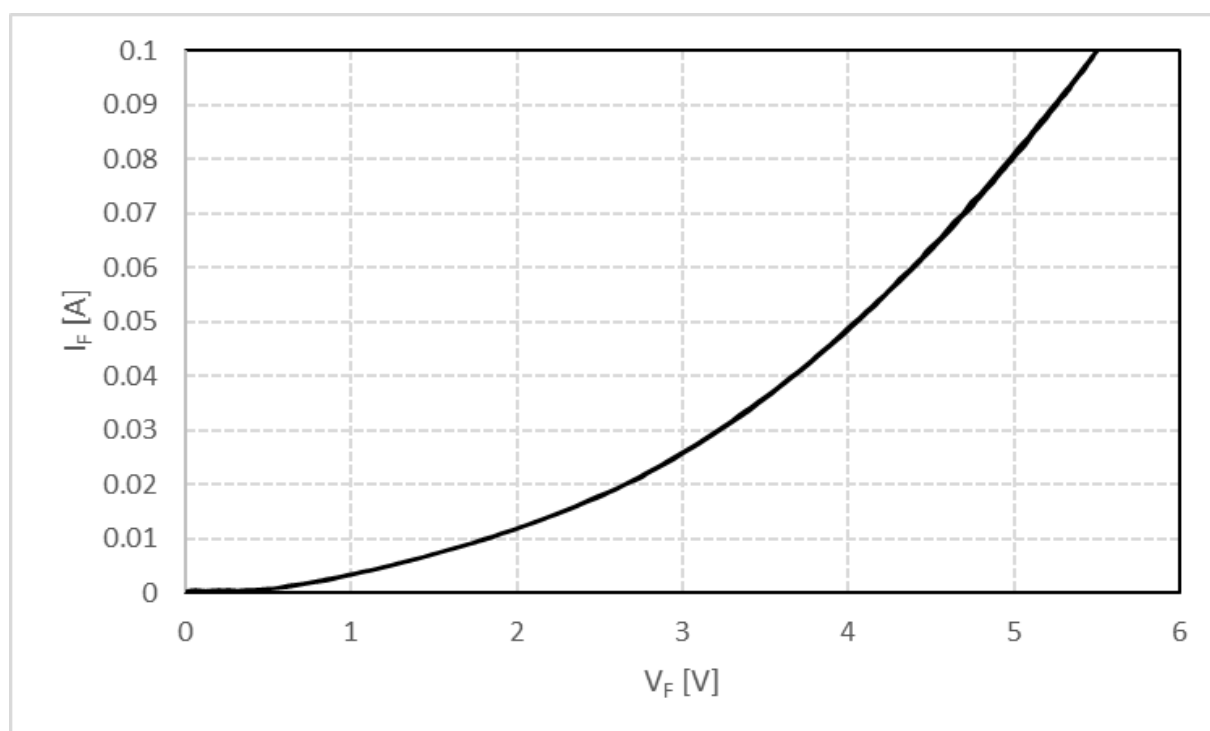

Fig. 5 Internal Bootstrap Diode I_F - V_F Characteristics
- T_{LVIC} is LVIC temperature and VOT is only for sensing temperature of LVIC and cannot shutdown IGBTs automatically. The relationship between VOT voltage output and LVIC temperature is described in Fig. 5. It is recommended to add a ceramic capacitor of 10nF or more between VOT and VSS (Signal Ground) to make the VOT more stable. Refer to the application note for this products about usage of VOT.